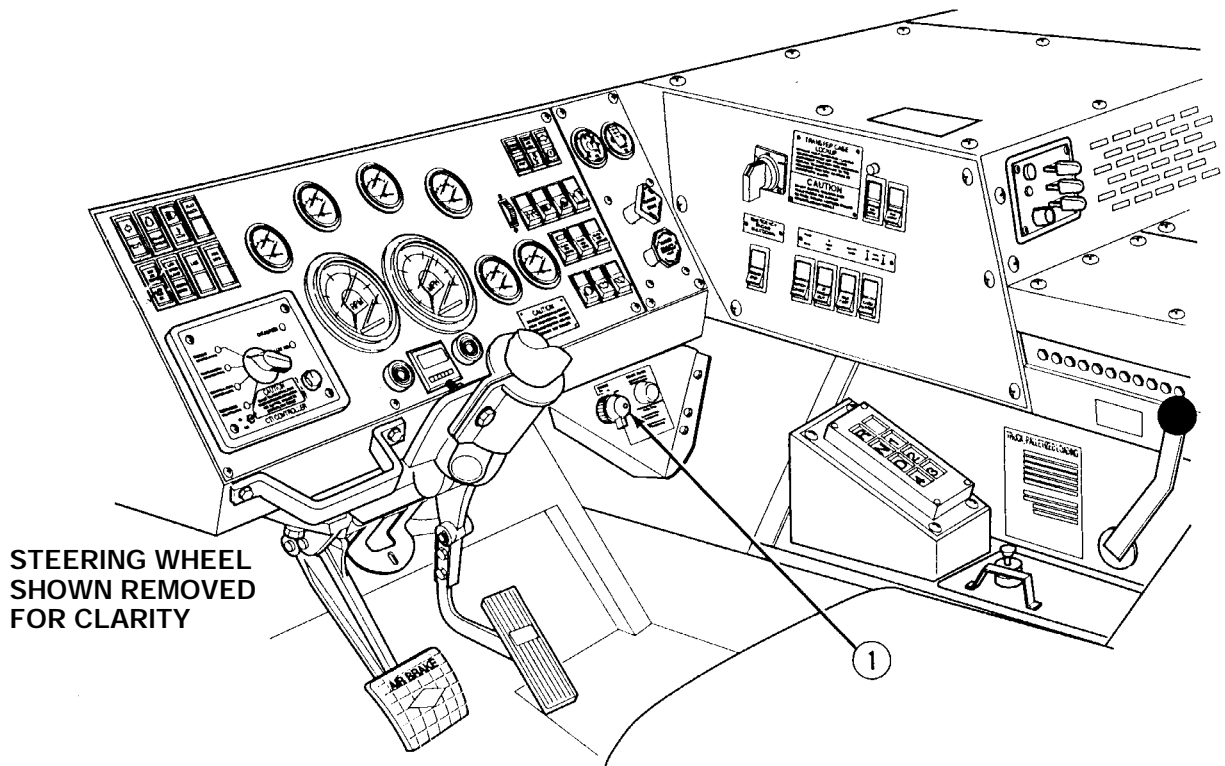

Figure 1-12. Engine Starting System
b. Engine Starting and Stopping. The engine starting system (Figure 1-12) uses the stored electrical energy of the batteries to turn the starter motor. When the ignition switch (1) is turned to the START position, electrical power is passed through the neutral safety switch to the starter relay. The starter relay, when energized, draws electrical power directly from the batteries and sends it to the starter motor solenoid. When the solenoid is energized, the starter motor draws electrical power from the batteries and turns the engine. To stop the engine, shut off ignition switch.